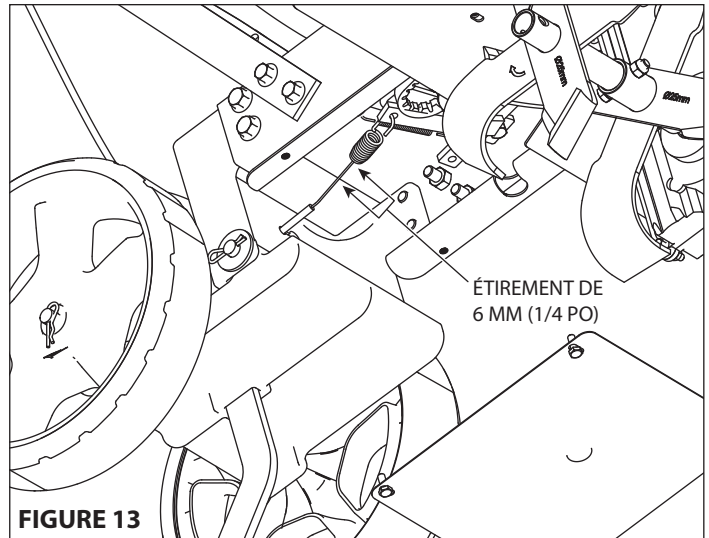

FIGURE 13
4. Pull down on drive safety control lever and measure length of spring when extended. Ideal length would be 1/4" longer. **SEE FIGURE 13**